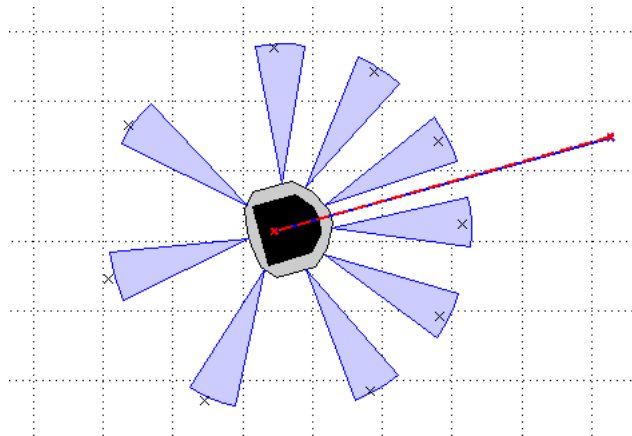

Figure 4: IR range to point transformation.
Start by downloading the new robot simulator for this week from the “Programming Exercises” tab on the Coursera course page. This week you will be implementing the different parts of a controller that steers the robot successfully away from obstacles to avoid a collision. This is known as the avoid-obstacles behavior. The IR sensors allow us to measure the distance to obstacles in the environment, but we need to compute the points in the world to which these distances correspond. Figure 4 illustrates these points
In `+simiam/+controller/+AvoidObstacles.m`, implement this transformation in the `apply_sensor_geometry` function. The objective is to store the transformed points in `ir_distances_rf`, such that this matrix has  $v''_1$  as its first column,  $v''_2$  as its second column, and so on. This matrix now contains the coordinates of the points illustrated in Figure 4 by the black crosses. Note how these points *approximately* correspond to the distances measured by each sensor (Note: *approximately*, because of how we converted from raw IR values to meters in Week 2).
2. Once you have implemented the second part, one black cross should match up with each sensor as shown in Figure 4. The robot should drive forward and collide with the wall. Note: The robot starts at an angle of  $\frac{\pi}{12}$ , instead of its usual angle of zero. The blue line indicates the direction that the robot is currently heading ( $\theta$ ).